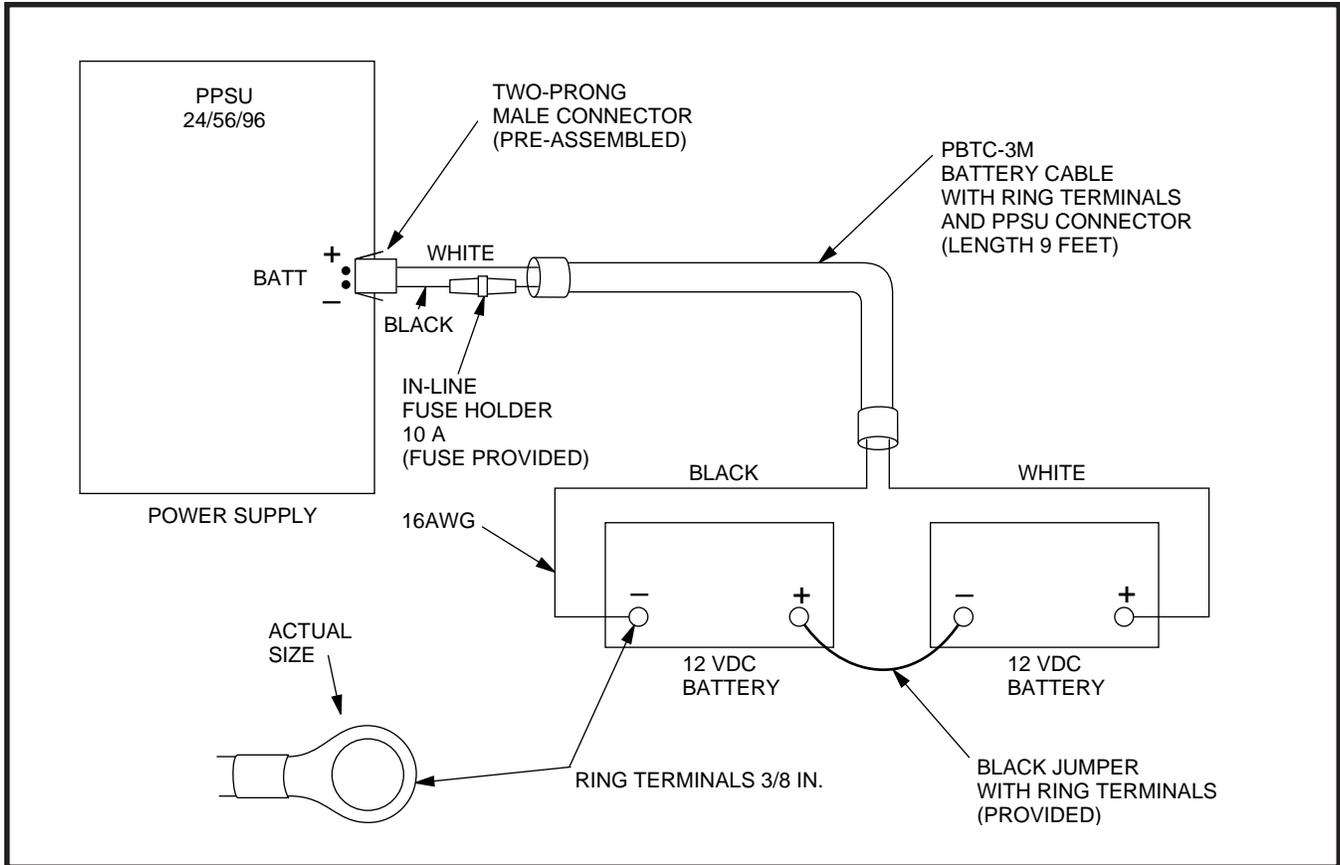

FIGURE 8-1
2.13 Reserve Power Installation. Install the Reserve Power option in accordance with the following steps: (Refer to Figure 8-1.)